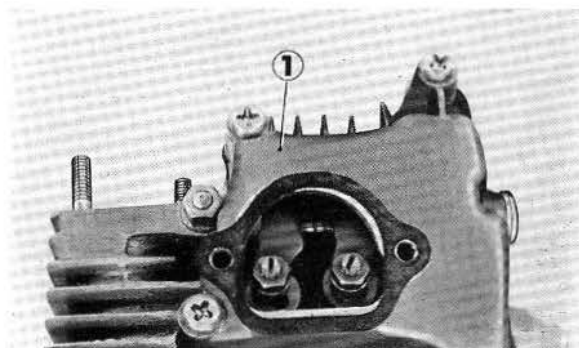

Fig. 2-5 ① Cylinder head cover
1. Remove cylinder head cover (Fig. 2-5)